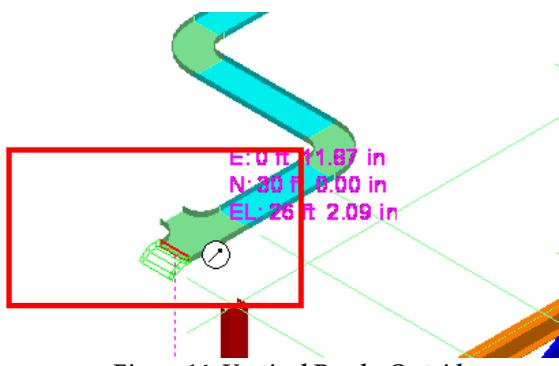

Figure 14: Vertical Bend - Outside
- After selecting the **Part Number** in the **Select Part** dialog box, click **OK**. The vertical bend in the graphic view should resemble the highlighted section of Figure 14.